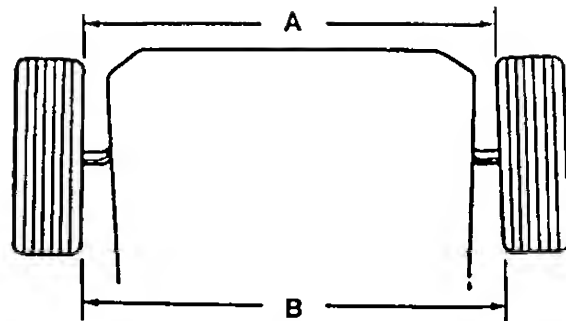

FIGURE 8.
2. Adjust the tie rod in or out until the wheels toe-in approximately $\frac{1}{8}$ " (Dimension "A" should be approximately $\frac{1}{8}$ " less than dimension "B"). See figure 8.